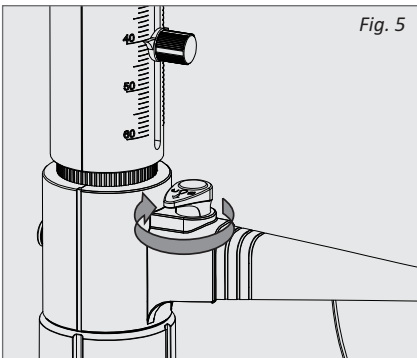

Fig. 5
1. Adjust the knob to recirculation mode. (Fig. 5)